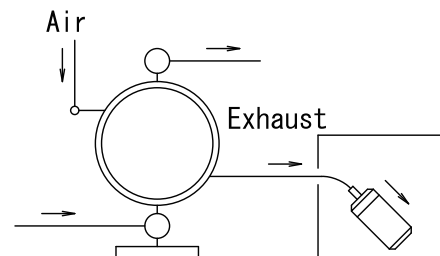

Fig.3.2
- * Exhaust should be directed outside, not into the fluid in which the pump is submerged. For information on how to arrange the exhaust, see NOTE: Arranging outside exhaust and Fig. 3.2 below.